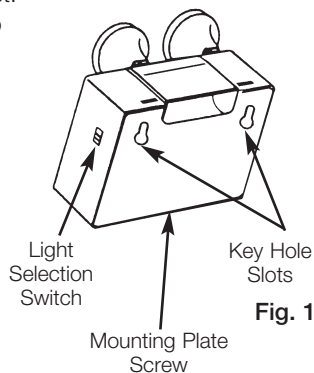

Fig. 1
- Step 2:** Loosen the mounting plate screw and remove the mounting plate. Connect the Red wire to the battery terminal. Reinstall the mounting plate and tighten the screw (Fig 1).
- Step 3:** Using the keyhole slots on the backplate of the light, mount light onto screws (Fig. 1).
- Step 6:** Select "1 Light" or "2 Lights" on the light selection switch, located on the side of the unit (Fig. 1).